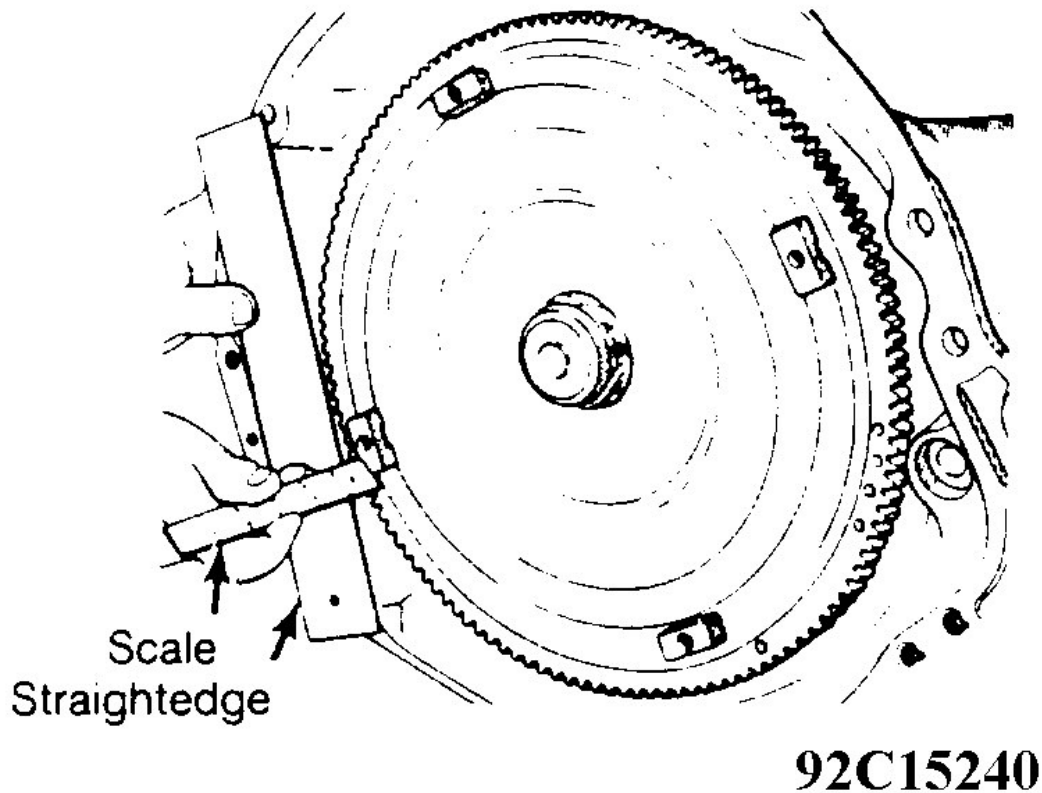

Fig. 27: Measuring Converter Installed Depth
17. Install torque converter. Ensure proper installation depth. Using a straightedge, measure from face of transmission case to surface of torque converter front cover lug. Distance should be at least 1/2". See **Fig. 27**.